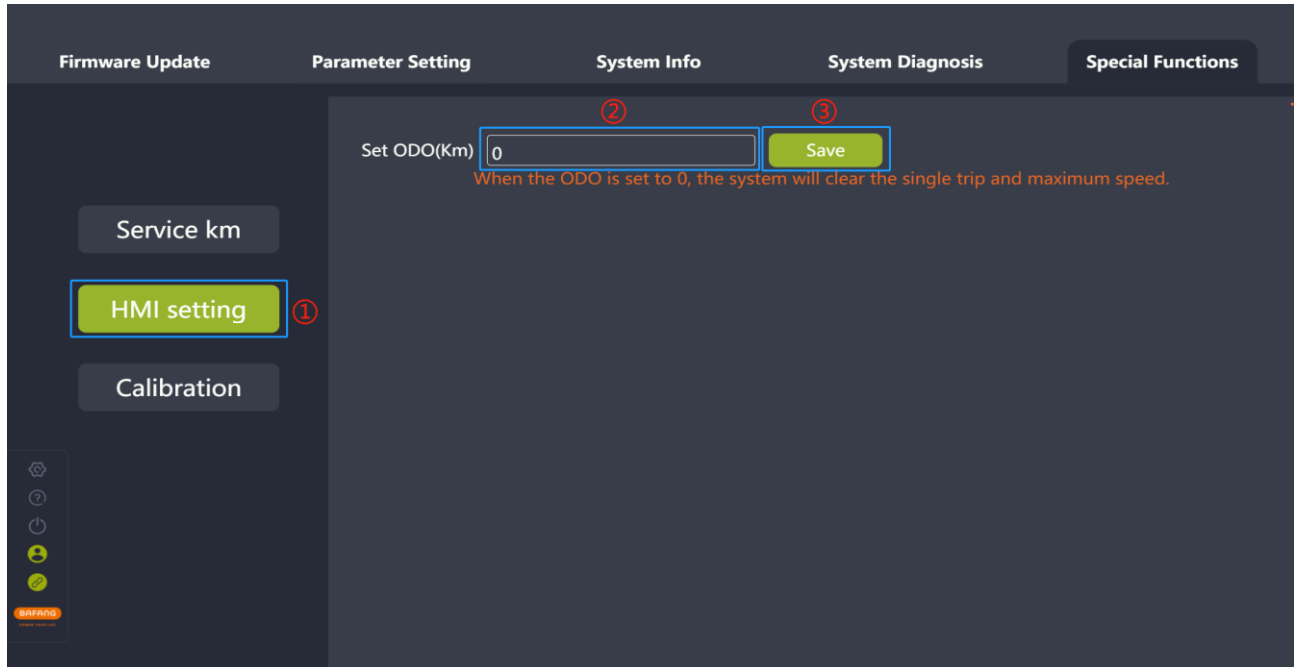

Fig. 8-4 Set ODO
- (1) Connect the BESST Tool to the HMI and select the "HMI setting" icon;
- (2) Enter the total mileage (ODO) in the "Set ODO(km)" input box and the value is an integer from 0 to 9999;
- (3) Click the "Save" icon (Fig.8-4).